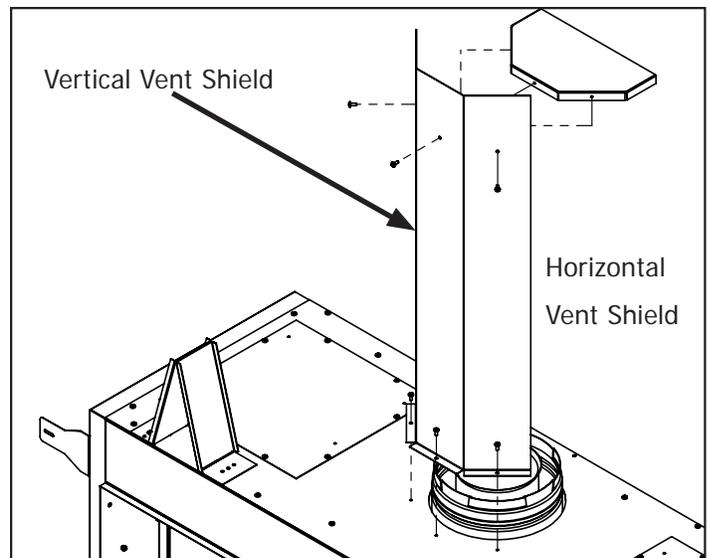

Figure 38: Vent Shielding Install
**IMPORTANT:** All installations must include the vertical vent shield. The horizontal vent shield is only installed if the fireplace is horizontally terminated with the minimum vertical rise of 12". If more than 12" of vertical rise is used in the vent configuration no horizontal shield is needed. See Figure 38 for shield install. Screws are pre-installed in cabinet and horizontal vent shield. Use a T-20 screwdriver or drill driver to remove screws then install shields.